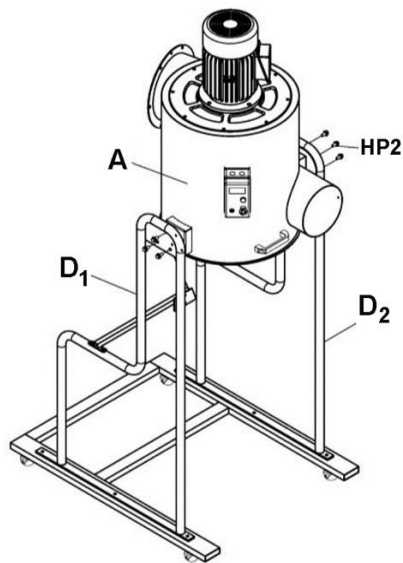

Figure 5
6. Position main housing (A) between left and right stands (D1,D2), and secure with flange head screws (HP2). See Figure 5.